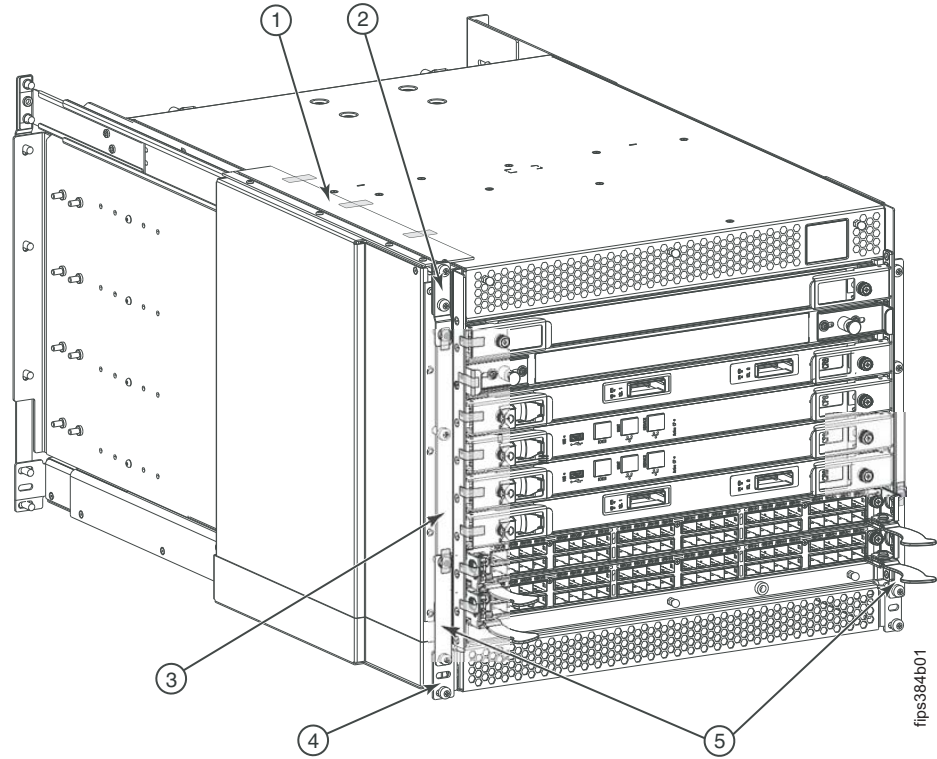
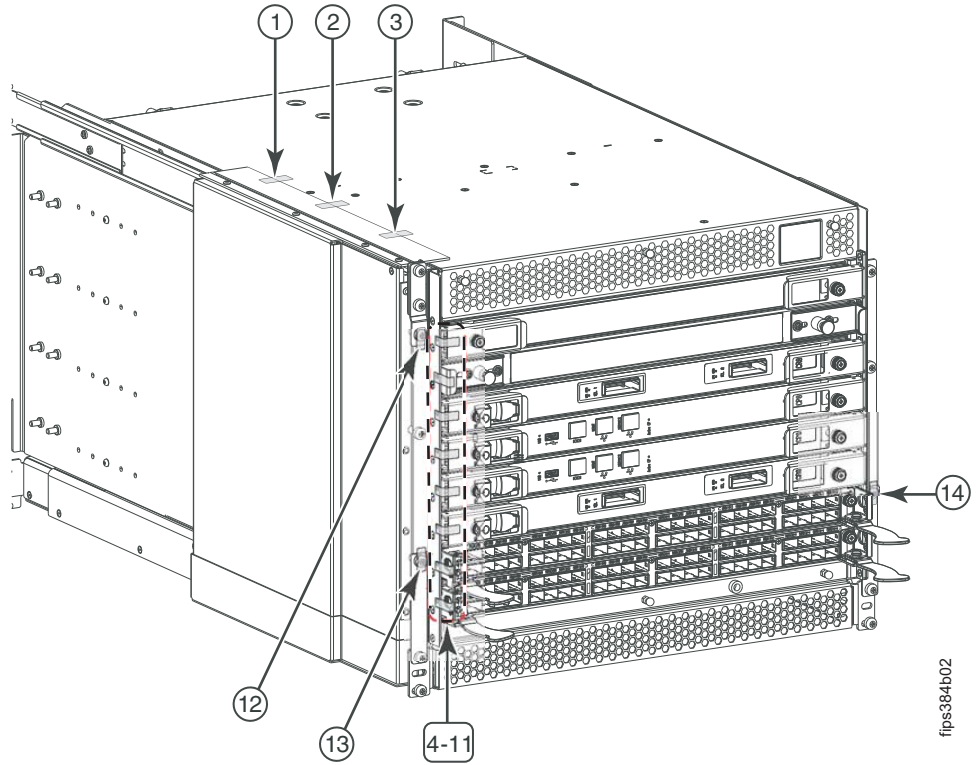
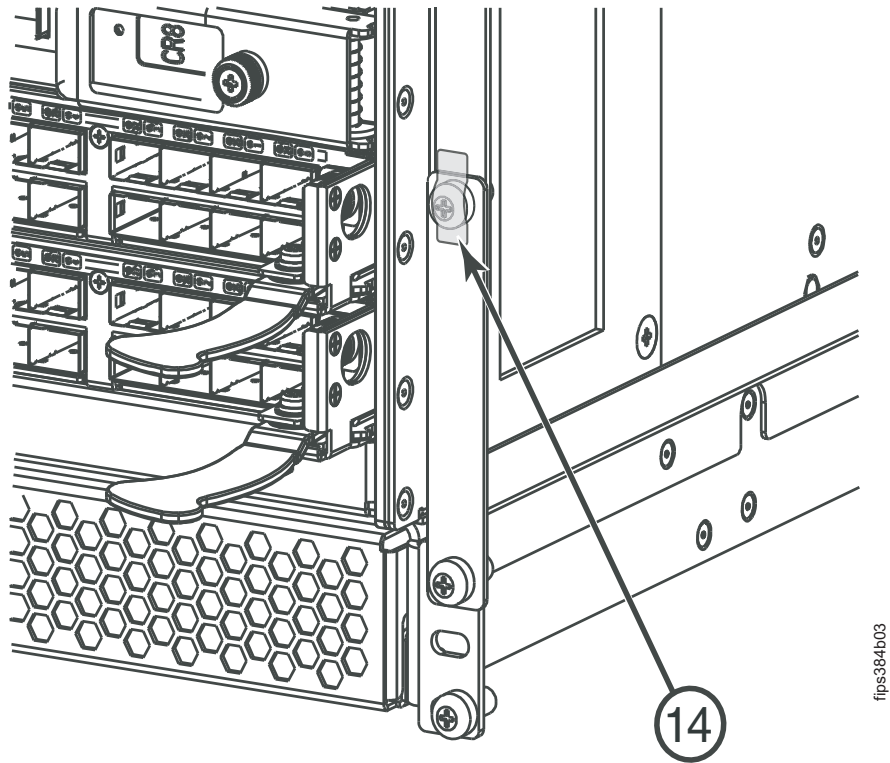

Figure 7. 2499-192 chassis components (left port view)
Figure 8. 2499-192 location of 14 seals on air duct and chassis port side (left port view)
Figure 9. 2499-192 port side bracket and seal location detail (right port view)
Fourteen (14) seals are required on the port side of the 2499-192 chassis (three on the air duct, eight on the blades and filler panels, and three on the port side brackets). Figure 7 on page 10, Figure 8 on page 11, and Figure 9 on page 11 provide an overview of the location of components, FIPS seals, and FIPS brackets. Detailed instructions for different blade types, filler panels, fan assemblies, and rackmount brackets are provided in subsequent sections. The three figures below provide an overview of the location of FIPS seals on the port side of the 2499-192.
Figure 7 on page 10 identifies the components of the 2499-192 as viewed from the left port side of the chassis. These components are referenced in the procedures to follow.
Figure 8 on page 11 shows the location of the seals on the port side of the 2499-192 as viewed from the left.
Figure 9 on page 11 shows the port side of the 2499-192 as viewed from the right, and provides a detailed view of the lower right FIPS bracket that is referenced in Figure 8 on page 11. Installation of these FIPS brackets and seals is covered in “Installing FIPS brackets and FIPS seals to a rackmounted 2499-192” on page 16.
Fourteen (14) seals are required on the port side of the 2499-192, including three for the rackmount installation. Follow the instructions below, referring to the numbered locations in Figure 8 on page 11 as needed, for locating the specified seals. Application of seals **12**, **13**, and **14** are covered in “Installing FIPS brackets and FIPS seals to a rackmounted 2499-192” on page 16.